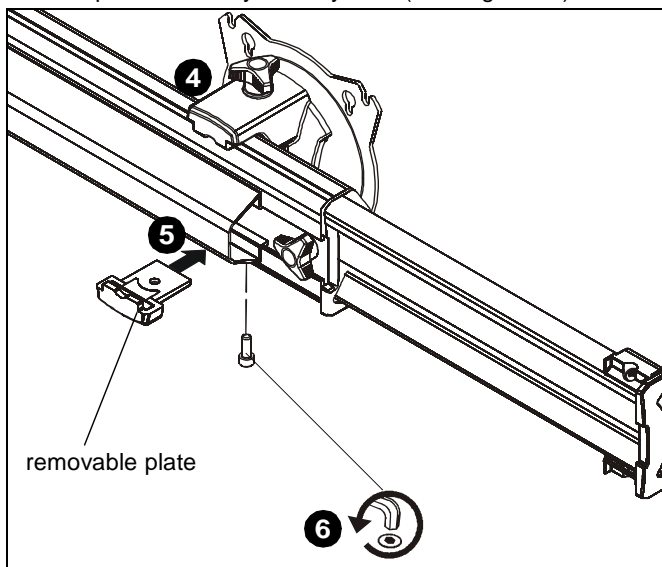

Figure 20
NOTE: Faceplate assemblies may be reattached on the fixed part of the arm. (See Figure 20)
4. Place faceplate assembly on array arm at desired mounting position. (See Figure 20)
5. Slide removable plate back into slot at bottom of faceplate assembly. (See Figure 20)
6. Reinstall hex head bolt removed in Step 1 to secure faceplate assembly to array arm. (See Figure 20)